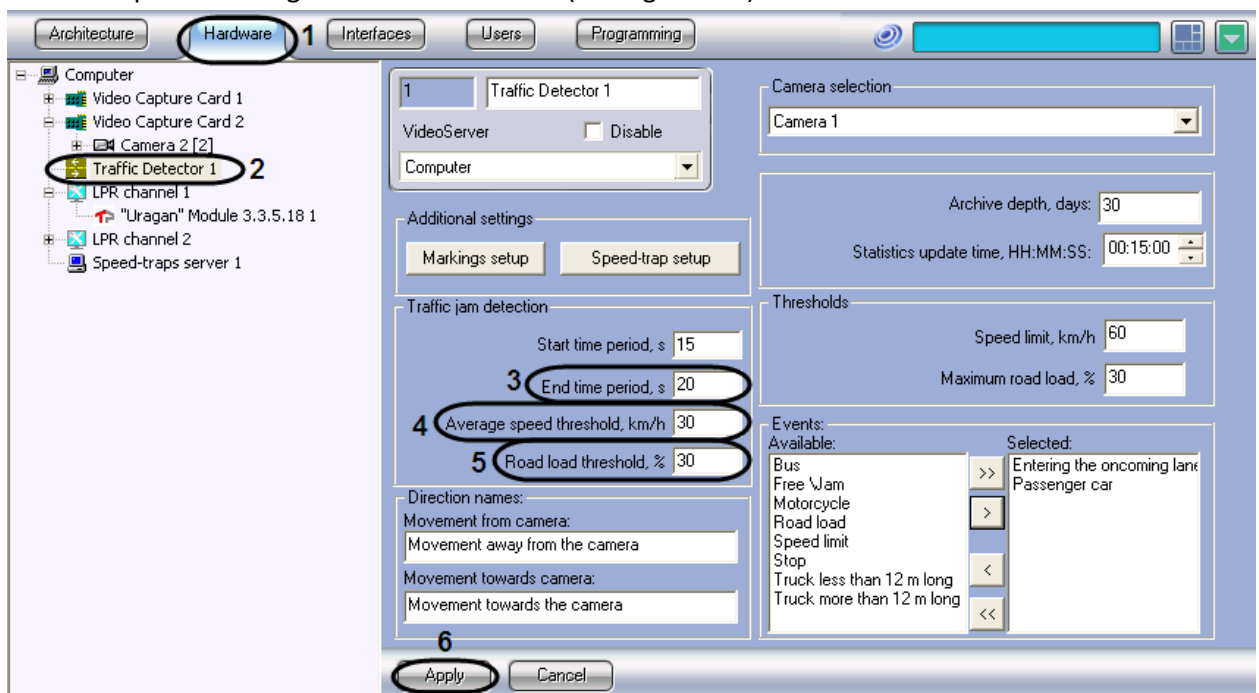

Fig. 7.4-17 Jam end parameters setup
- In the object tree on the left side of the Hardware tab, select the Traffic Detector object representing the Traffic Detector module to be set up. The settings panel of the selected object will open on the right side of the window (see Fig. 7.4-17).